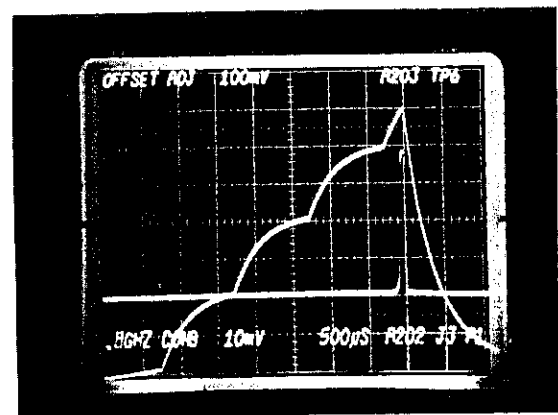

FIGURE 6-4
(6) Reduce the input frequency to 1.0 GHz. When the input frequency is exactly 1 GHz, the center line of the three comb lines on Channel A should null. This identifies the 1 GHz comb line. The 800 MHz comb line is the line preceding the 1 GHz line.
(7) Remove the ground from A203TP1 and place it on A203TP2. Depress the RESET switch.
(8) Adjust YIG Offset A202R49 so the ramp resets at 50% (1 div) of the fourth ramp step (See Figure 6-4).